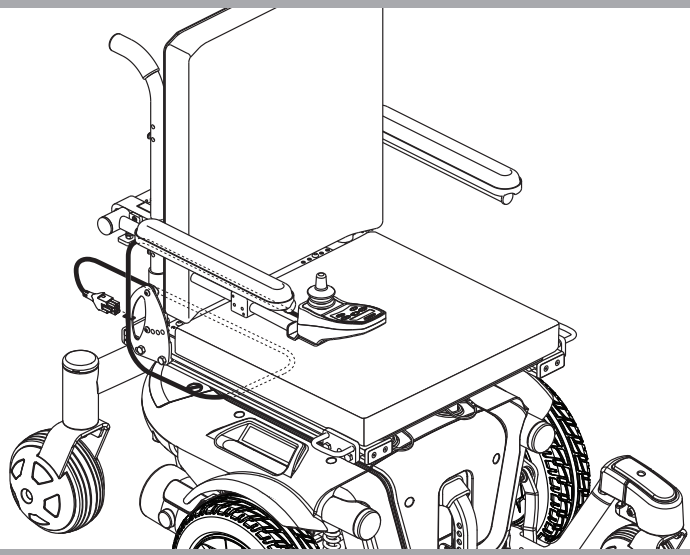

Figure 6. Controller Routed on a Synergy Seat
4. Install the controller and route the harness to the back of the power base. **See figure 6, 7, or 8.**
9. Secure the controller harness to the armrest receiver with wire ties. **See figure 6, 7, or 8.**